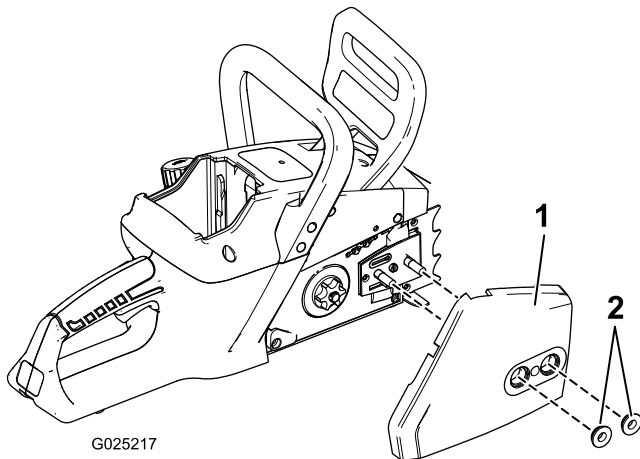

Figure 1
2. Remove the two bolts that secure the cover (Figure 1).
10. Tighten the 2 nuts (Figure 1).